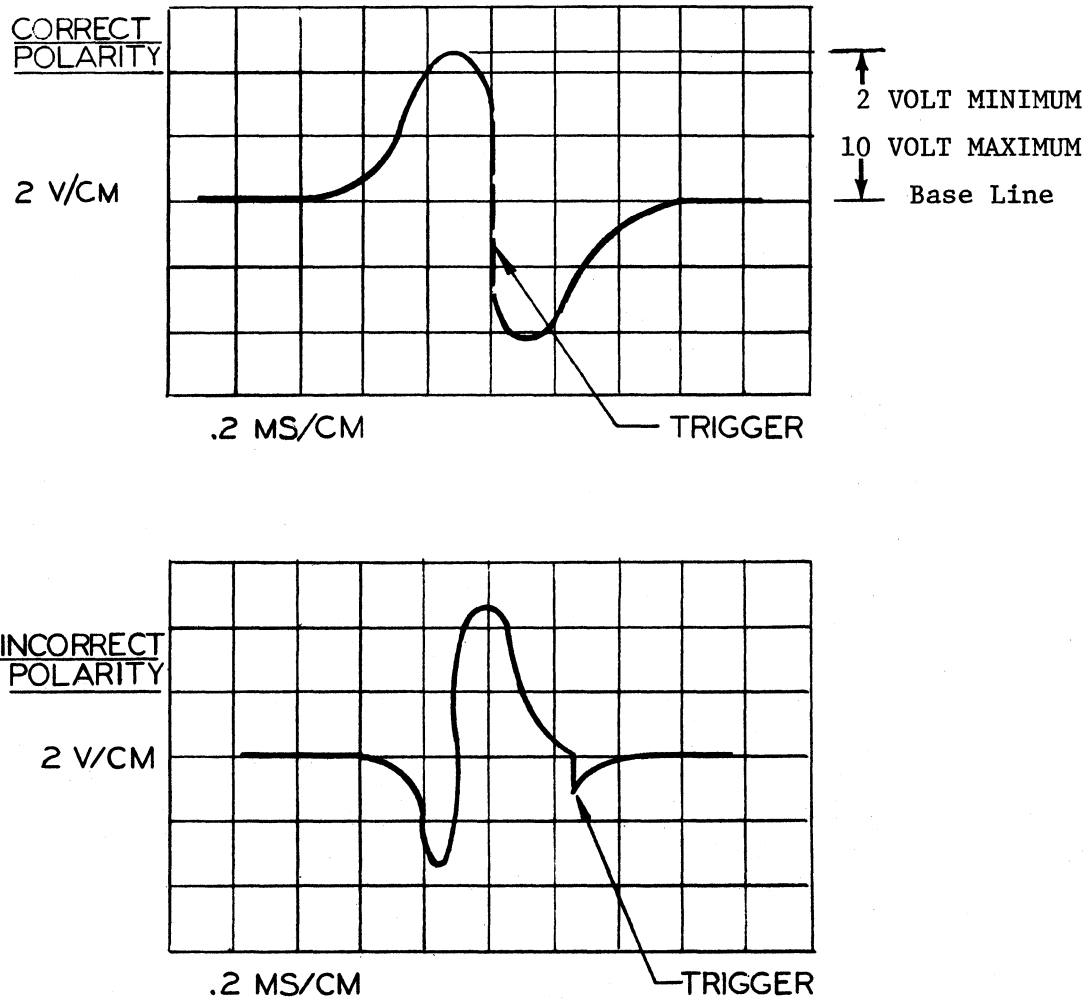

FIGURE 3-6
- (1) Initially the gap between the magnet poles and the timing wheel teeth and home tab should be set for .001" minimum and .012" maximum, by positioning the magnet brackets and/or slight forming of the coil bracket as required. The actual clearance will be determined by setting the gap for the specified output voltage specified in Step 2 (below).
- (2) The output voltage of the home and character pickup coils should be adjusted to meet the following specifications:
- (3) To check, connect a scope to the coil output terminal under test (DC card terminals 1 and 3). With the printer running, observe the output voltage waveform. The output waveform should appear as shown in Figure 3-6 .
- (4) Stop the printer and readjust the gaps as required to achieve the proper output. Before starting the printer, manually check for safe clearance between the teeth and the magnet poles.